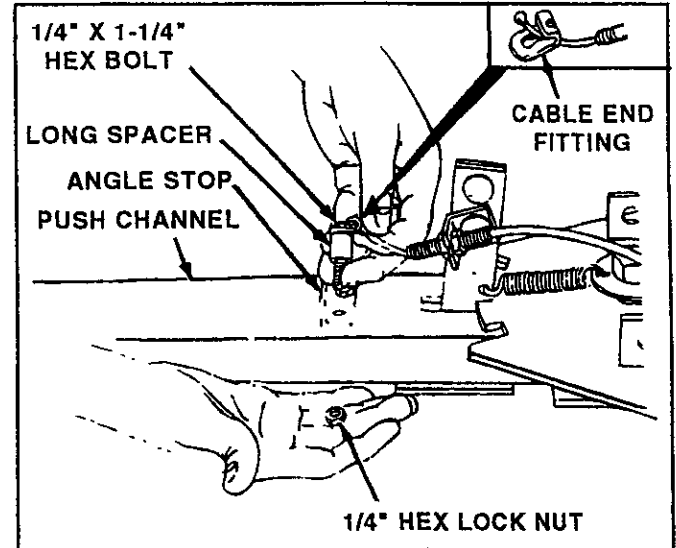

FIGURE 8
- Assemble 1/4" x 1-1/4" hex bolt down through cable end fitting, through long spacer, angle stop, (right hand hole) and through channel. See figure 8. Secure with 1/4" hex lock nut and tighten the other 1/4" hex lock nut, which was left loose in step 4. **NOTE:** Keep cable and fitting in alignment with cable mount bracket when tightening nuts.